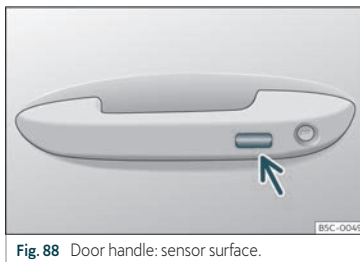

Fig. 88 Door handle: sensor surface.
- **OR** by means of the Keyless Access* (only closing): Press and hold the locking sensor surface >>> **Fig. 88** (arrow) on the door handle for several seconds to close the windows and the sunroof*. If you release the sensor surface, the closing movement stops.
- Press and hold the locking sensor surface »» Fig. 88 (arrow) on the door handle to close the sunroof. If you release the sensor surface, the closing movement stops.